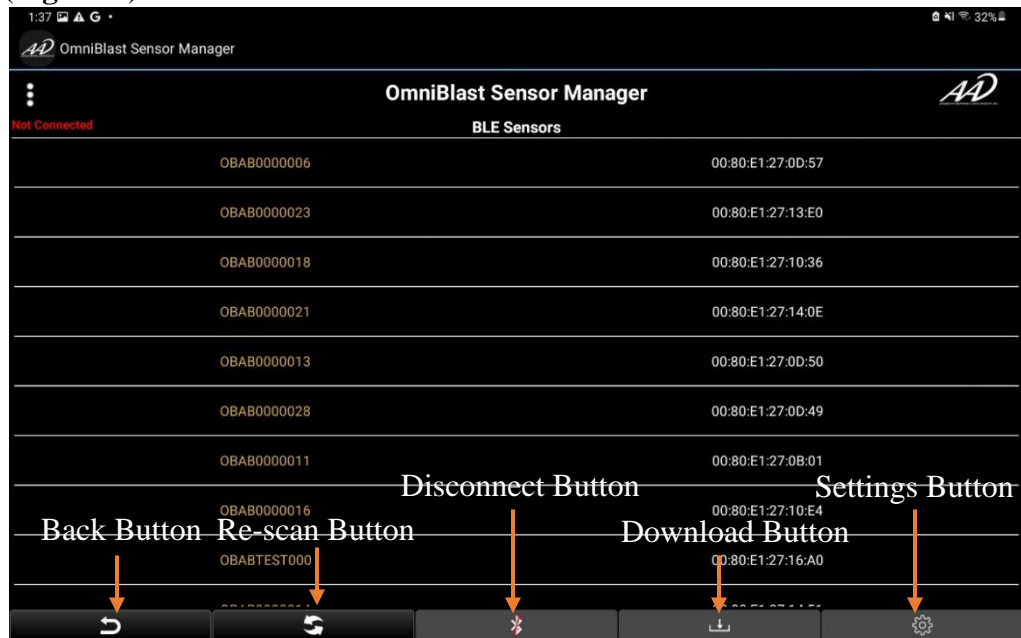

Figure 8. Available sensors listed on the Bluetooth page of the OSM.
- b. If OmniBlast™ sensors are found available via Bluetooth, they will be displayed (**Figure 8**)